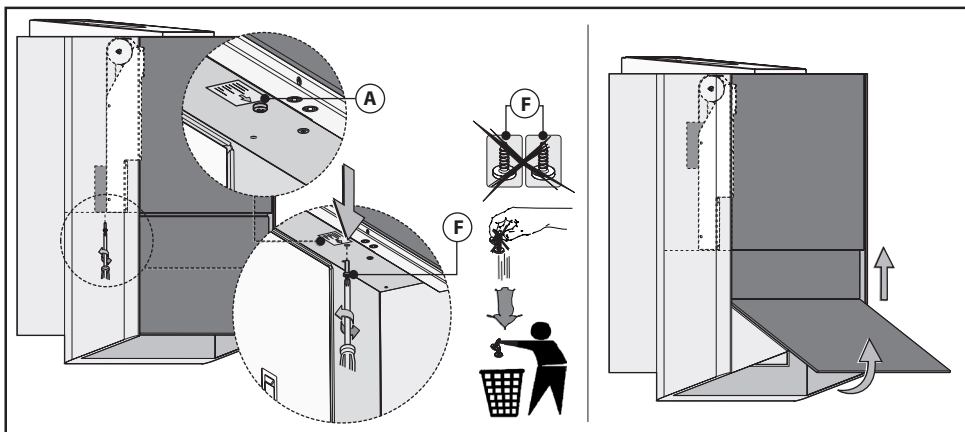

Fig.2
• ATTENTION! Remove screws "F" (Fig. 2) before plugging in the appliance. These screws fasten down the counterweight, required for opening the front panel, during transport of the appliance. The screws may be on one or both sides of the hood, depending on the version. A label, or possibly several, indicate the location of the screws (Fig.2A).